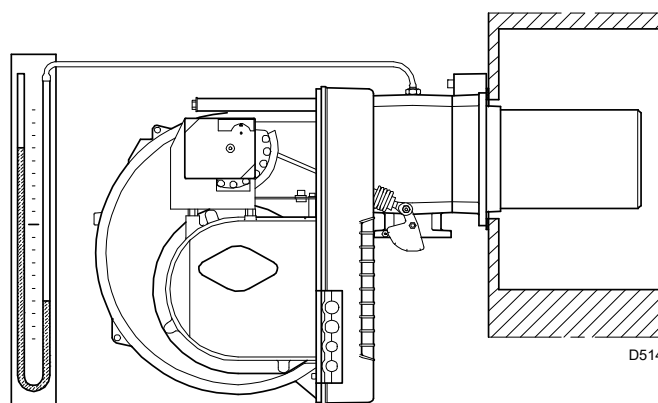

Fig. 26
- Fit a U-type pressure gauge (Fig. 26) to the gas pressure test point on the pipe coupling.
The arrival of gas to the sleeve is indicated by the U-type pressure gauge (Fig. 26).
A rough indication can be obtained from tables on page 20, just read the gas pressure on the U-shaped pressure gauge, see Fig. 26 on page 24, and follow the instructions given in page 20.